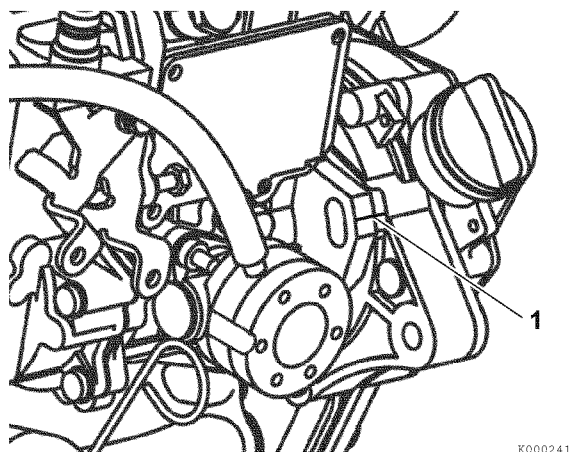

Figure 7-26
6. Align the reference marks (1, **Figure 7-26**) made during disassembly on both the fuel injection pump mounting flange and gear case. If installing a replacement fuel injection pump, align the manufacturer-applied mark on the pump mounting flange with the mark made on the timing gear cover.